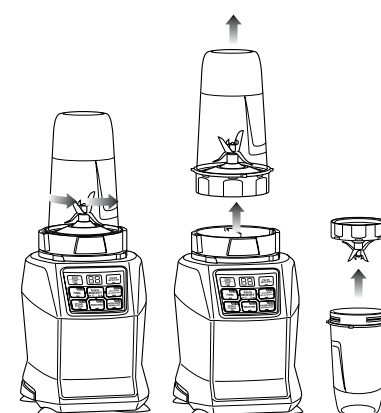

Fig. 4
- 8 Turn the Nutri Ninja Cup counterclockwise and pull straight up to remove. (Fig. 4, Fig. 5)